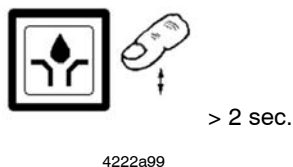

Fig. 30 Operator key to trigger an additional lubrication cycle
- An additional lubrication cycle is triggered via the button (fig. 30). Press the button **for 2 seconds**.